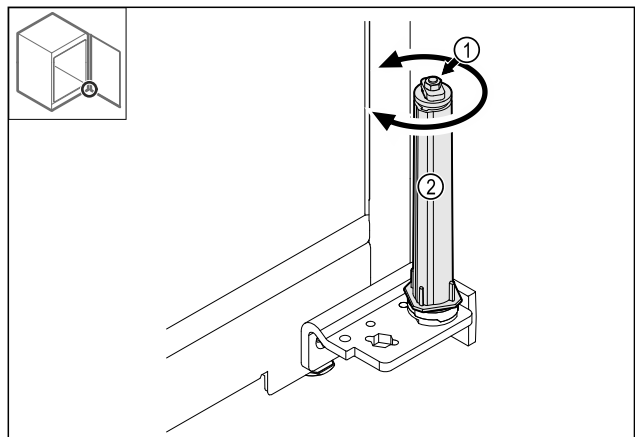

Fig. 39
- Do not dismantle the screw connection Fig. 39 (1) on the locking system.
- Turn the locking system Fig. 39 (2) until it clicks.